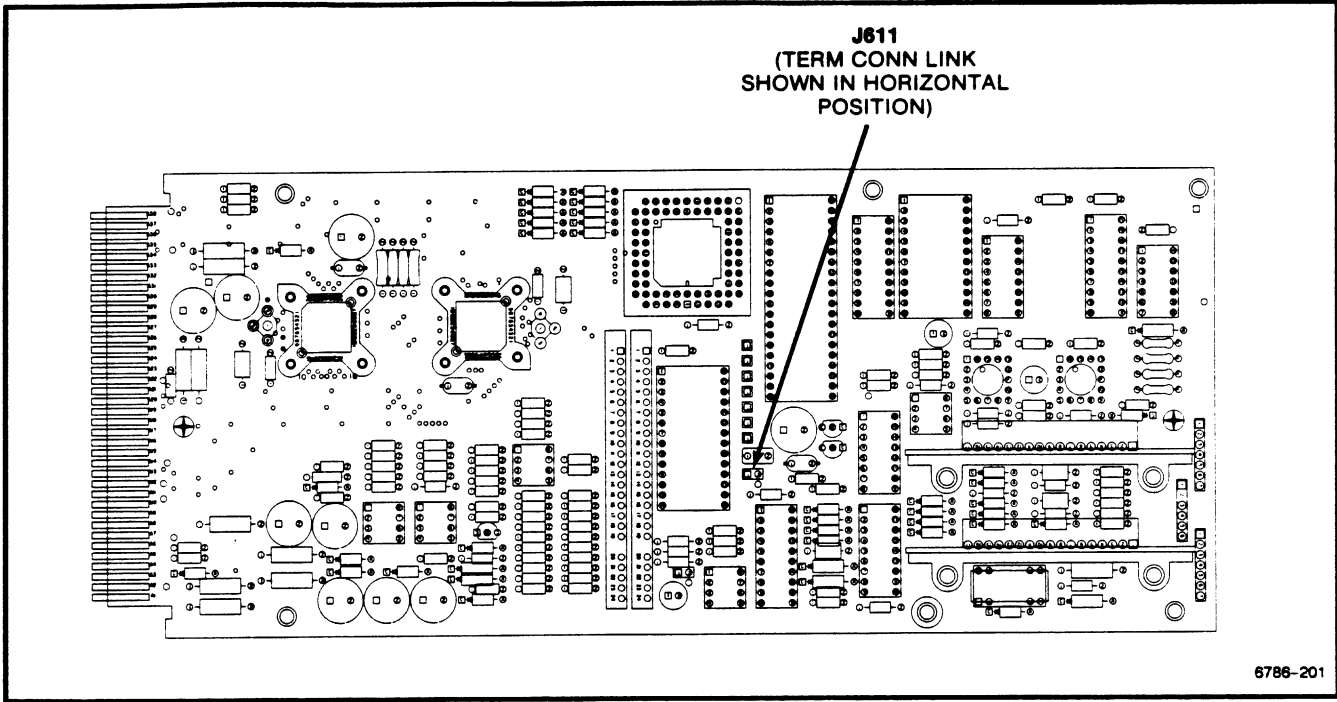

Figure 2-1. A1 Main board plug-in jumper location.
2. In the plug-in, change Term Conn Link J611 on the A1 Main board to its horizontal position. Refer to Figure 2-1 for the test point location.
- b. Remove the plug-in from the mainframe, return the Term Conn Link J611 to its normal vertical position to prevent the values from being changed, and reinstall the plug-in in the Center plug-in compartment. Refer to Figure 2-1 for the plug-in jumper location.